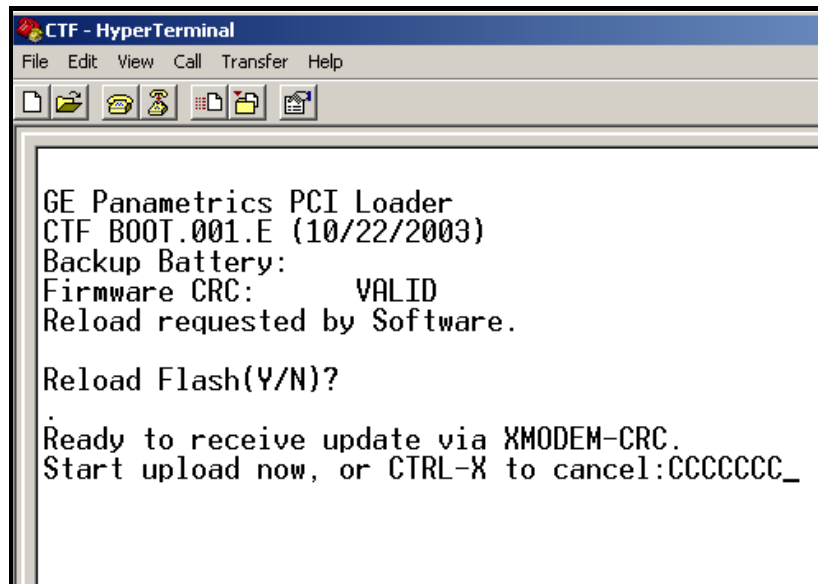

Figure 2-11: "Ready To Receive Update" Window
4. If you chose to reload flash, a message appears as in Figure 2-11 below. On the PC in the Hyperterminal Window, select the "Send File" entry under "Transfer."